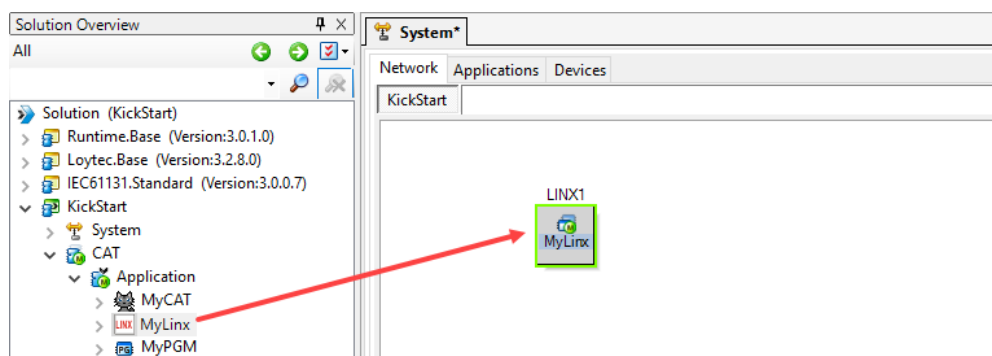

Figure 50: Create a device instance.
19. Finally create a device instance. Open the System  in the toolbar. Then select the **Network** tab. Drag the 'MyLinx' device from the solution tree onto the network tab and assign a name to the device instance as shown in Figure 50.